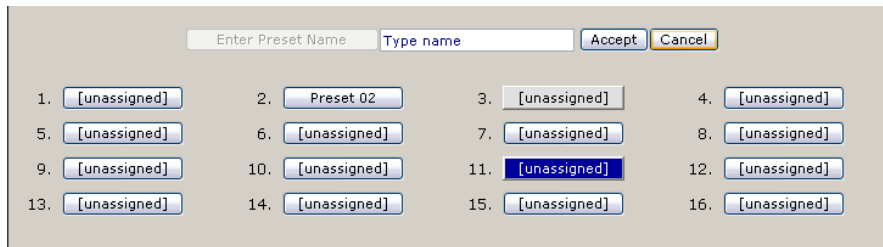

Figure 6-16 — Enter a name into the preset name field
2. Click on the next unassigned number, or if all presets are taken, any preset button. The preset button is highlighted, and the **Select Preset...** button disappears. The Accept/Cancel buttons become visible (see figure 6-16).